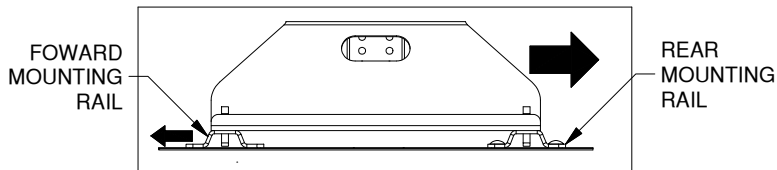

Figure E4: Side view of RV base and mounting rails.
3. **IMPORTANT:** Before drilling forward mounting holes pull the RV base towards the rear of the truck and push the forward rail towards the cab of the truck to correctly space the mounting rails, see figure E4.